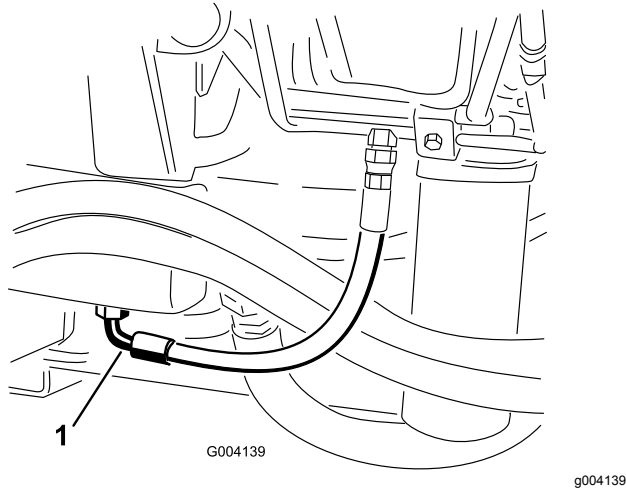

Figure 65
- Place a large drain pan under the fitting secured to the bottom of the hydraulic-fluid reservoir (Figure 65).